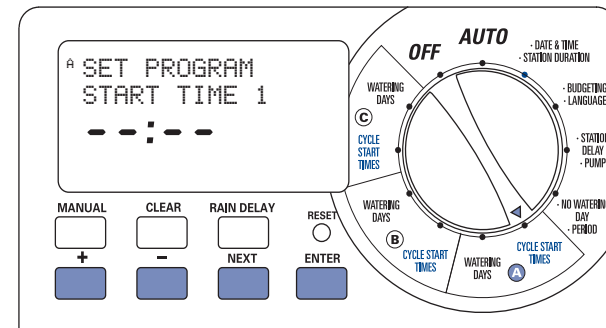

Figure 5: Setting start time
- Turn the rotary selector to the **CYCLE START TIMES** position in the program that you want to set up. The display will show an A or B or C depending on which program you have selected. [See Figure 5]